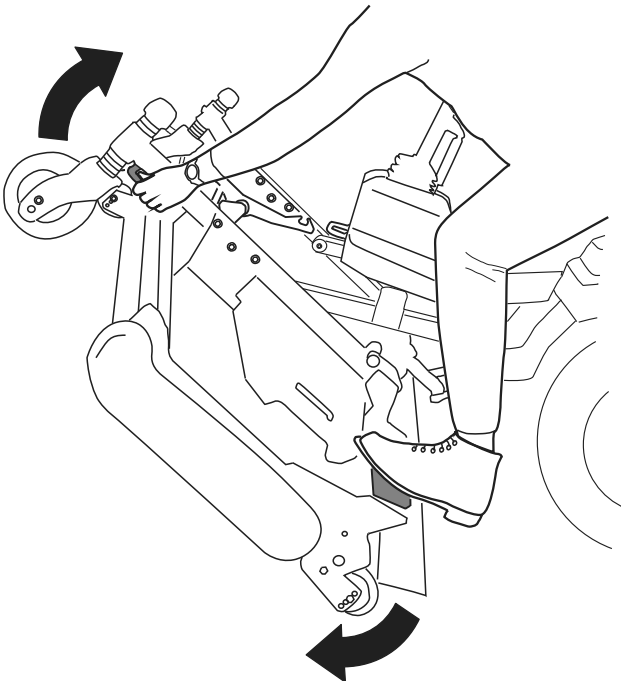
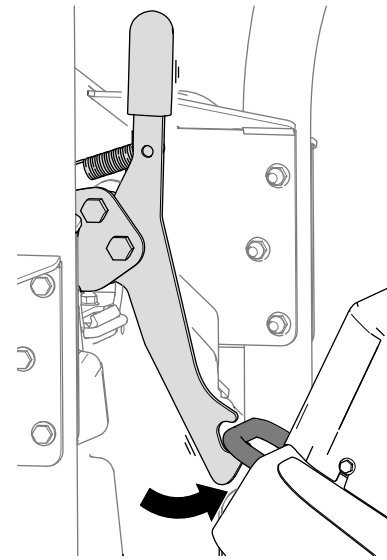

Figure 37
Figure 38
5. Rotate the cutting unit (Figure 37) so that the latch engages with the tie-down bracket (Figure 38).
1. Release the cutting-unit latch from the tie-down bracket (Figure 39) by slightly rotating the cutting unit slightly forward (refer to Figure 37) and pulling the latch handle forward.